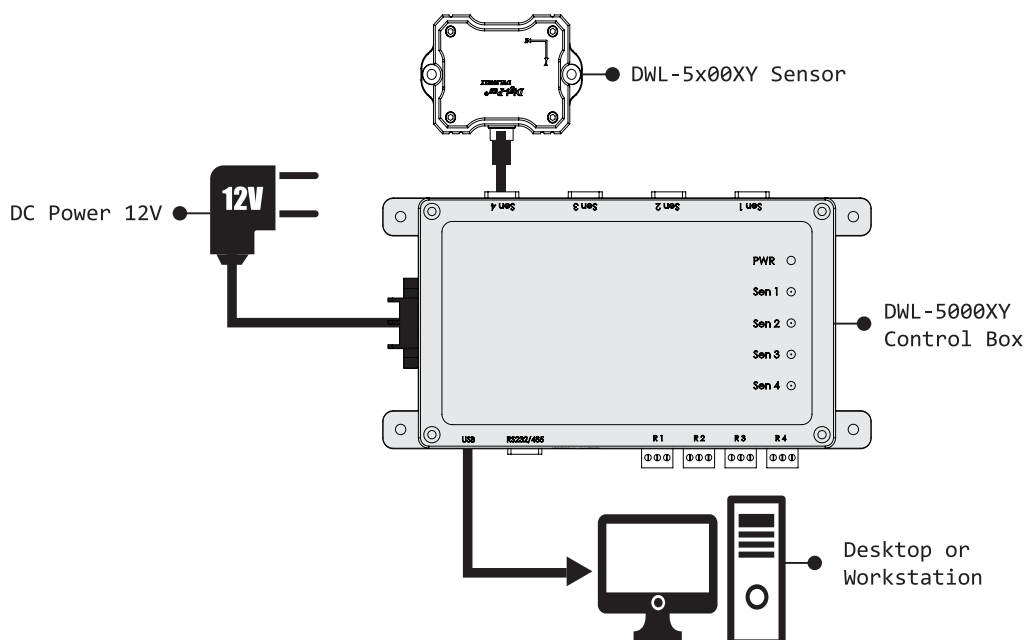

Figure 11. Diagram for USB connection through control box using and ES-U-3001-M serial converter
5. Connect the USB cable from USB2.0 Standard-B Port on the control box to the PC as shown in Figure 11.